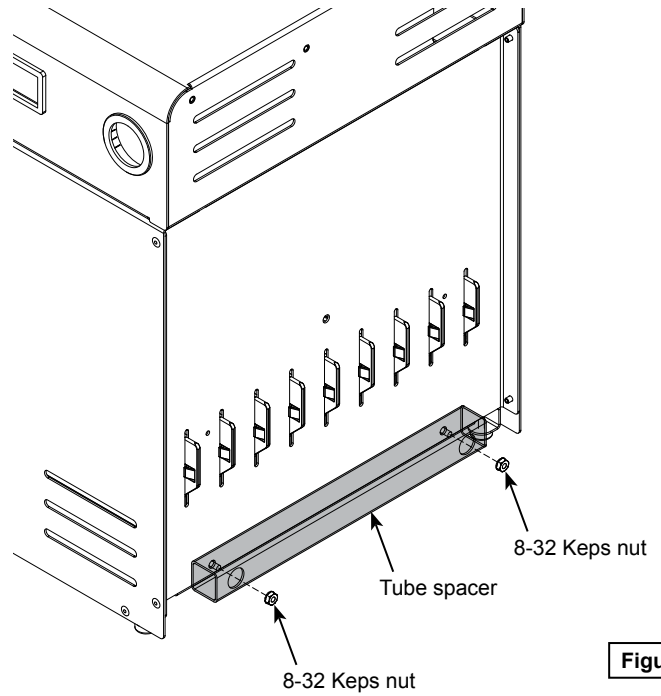

Figure 2
1. Attach the tube spacer to the back of the Connect10 using (2) 8-32 Keps nuts. **Figure 2.**